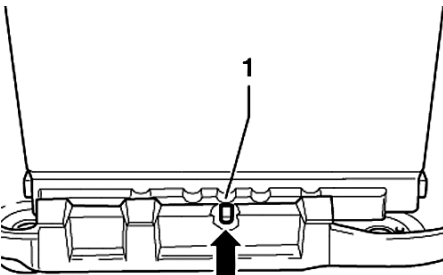

Fig. 4 Battery installation. Engine compartment
1. Insert battery in battery carrier so that lug at rear of battery carrier (arrow) engages in recess in battery base strip (1), **Fig. 4**. Battery has been properly inserted if center recess in battery base strip aligns with tapped hole in battery tray.
3. Connect positive terminal (2) to battery post, and **torque** nut to 66 inch lbs.
4. Connect ground terminal (1) to battery post, and **torque** nut to 66 inch lbs.